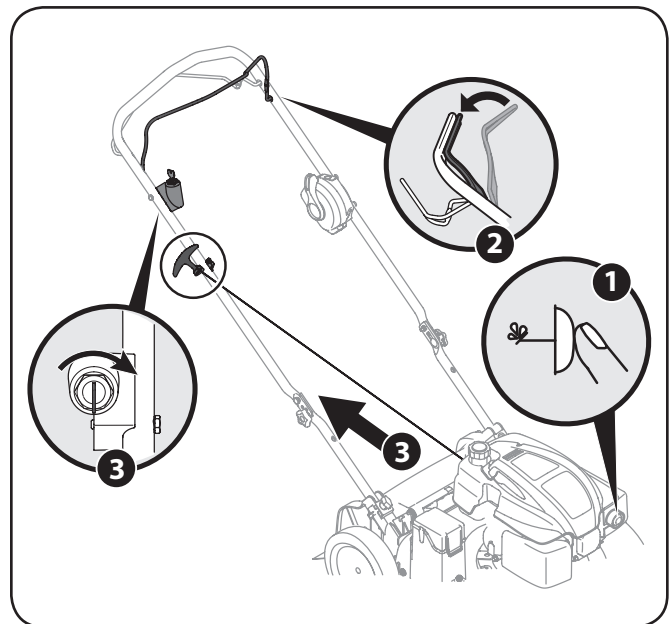

Figure 5-2
1. Push primer 3 times. Wait about two seconds between each push. See Figure 5-2. In temperature below 50°F, prime 5 times. After the engine is warmed up, one prime may be needed for all temperatures.
Recoil Start: Pull the recoil starter lightly until resistance is felt, then pull rapidly to overcome compression, prevent kickback, and start the engine. Repeat if necessary. See Figure 5-2.